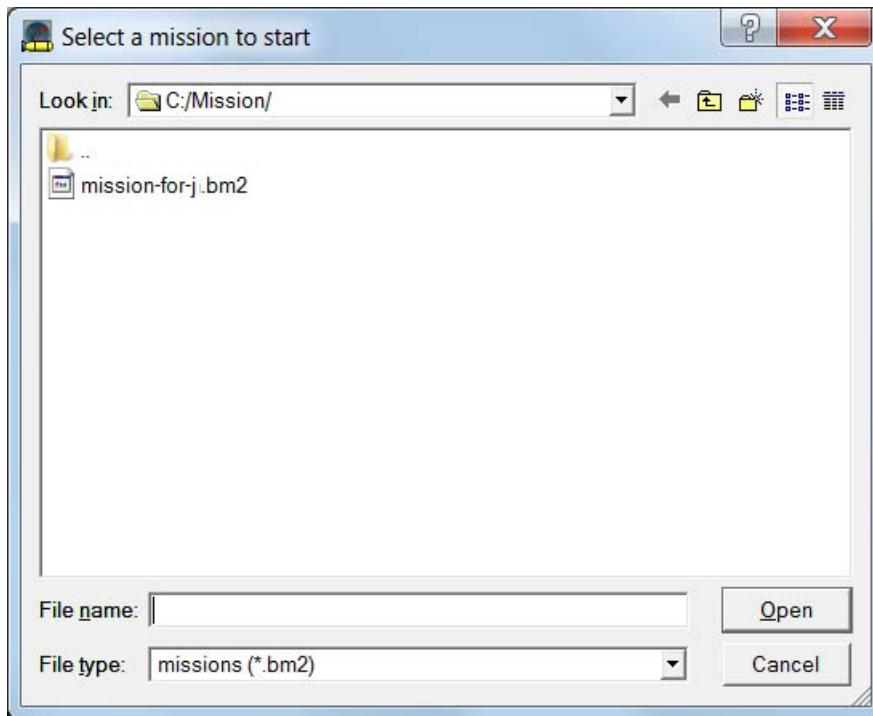

Figure 159: Select a New Mission from the Window
2. The **Select a mission to start** window (Figure 159) opens.